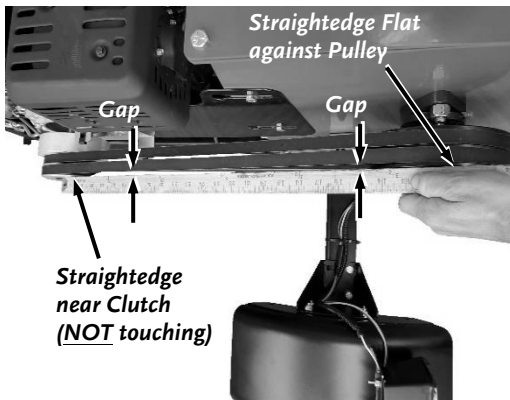

Figure 26
2. Check the alignment between the Clutch and the Drive Pulley by placing one end of a Straightedge flat against the face of the Drive Pulley with the other end near the top portion of the Clutch (next to the Belt but not touching the Clutch) (**Figure 26**).